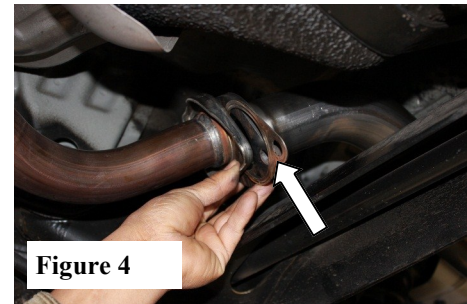

Figure 4
1. Install factory sealing gasket to new flange. Align flange-end of Muffler Assembly to factory flange. (See Fig. 4)